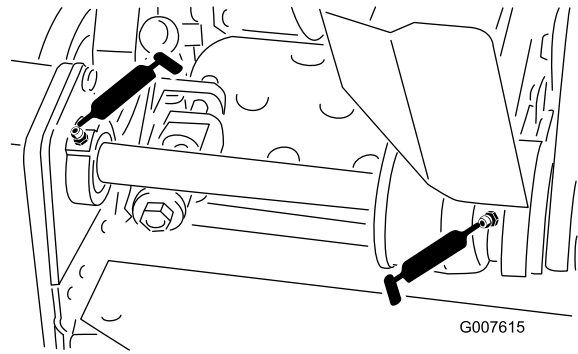

Figure 16
- 2 on the reel countershaft bearings (Figure 16)